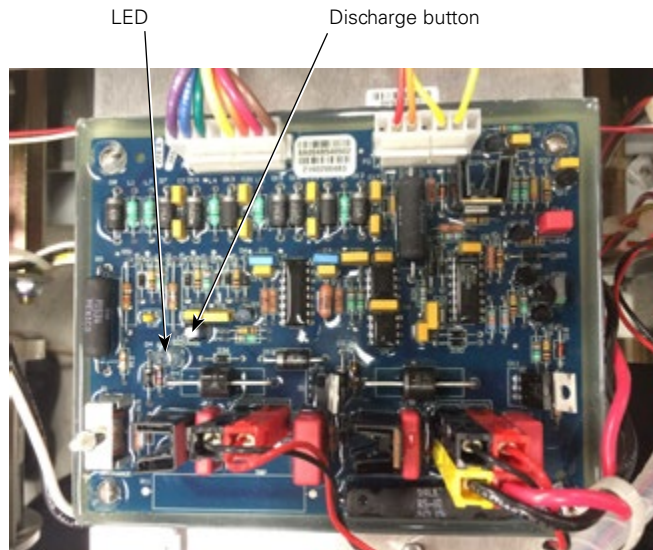

Figure 15. Location of white discharge button and LED discharge indicator on actuator circuit board.
3. Locate the white discharge button on each actuator circuit board. See Figure 15.